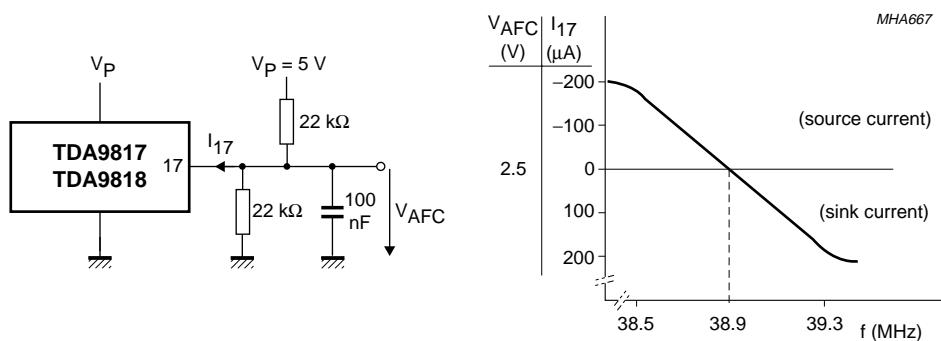

Fig.7 Measurement conditions and typical AFC characteristic.
12. To match the AFC output signal to different tuning systems a current source output is provided. The test circuit is given in Fig.7. The AFC-steepness can be changed by the resistors at pin 17.